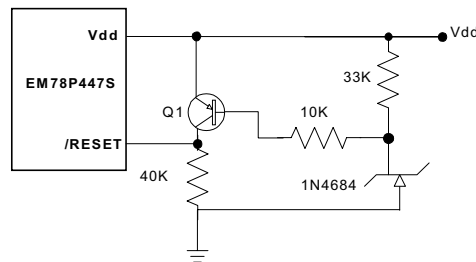
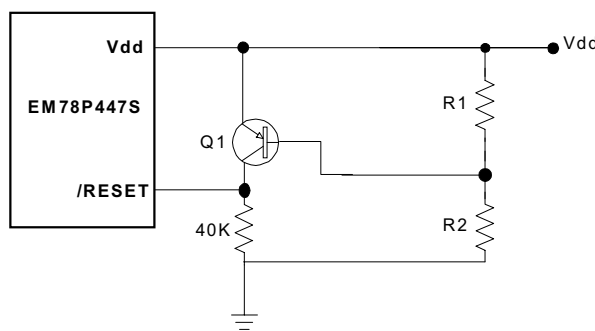

Fig. 16 The Residue Voltage Protection Circuit 1
Fig. 17 The Residue Voltage Protection Circuit 2
The circuit shown in Fig.16 implements an external RC to produce the reset pulse. The pulse width (time constant) should be kept long enough for Vdd to reached minimum operation voltage. This circuit is used when the power supply has slow rise time. Because the current leakage from the /RESET pin is about $\pm 5\mu$ A, it is recommended that R should not be greater than 40 K. In this way, the /RESET pin voltage is held below 0.2V. The diode (D) acts as a short circuit at the moment of power down. The capacitor C will discharge rapidly and fully. Rin, the current-limited resistor, will prevent high current or ESD (electrostatic discharge) from flowing to pin /RESET.
When battery is replaced, device power (Vdd) is taken off but residue-voltage remains. The residue-voltage may trips below Vdd minimum, but not to zero. This condition may cause a poor power on reset. Fig.16 and Fig.17 show how to build the residue-voltage protection circuit.